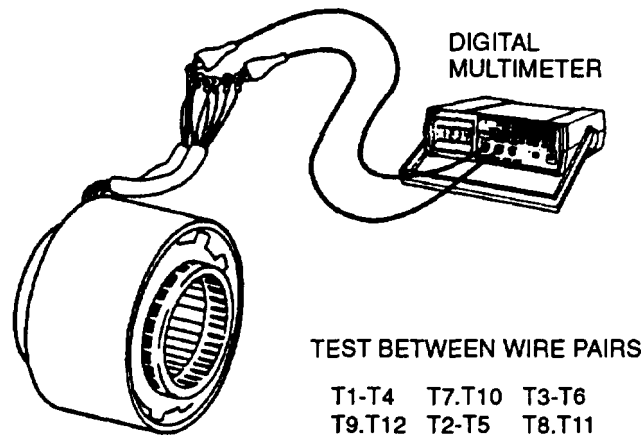

FIGURE 4-22. Testing Stator Windings
- g. Connect resistance bridge between coil leads (FIGURE 4-22). All readings should be as shown for generator stator leads in TABLE 4-1.